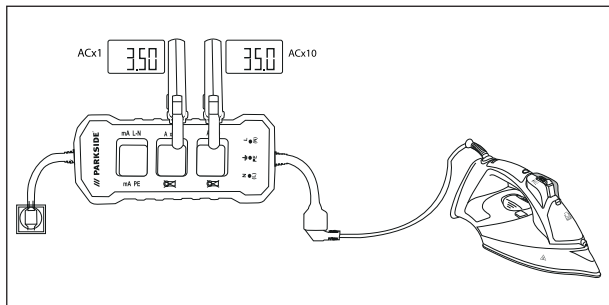

Fig. 1
- 4) Read the values of the line current on the ring **A x1** **2** or divide the read value of the ring **A x10** **3** by 10 (see Fig. 1)